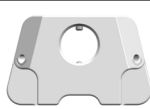

Figure 63
3. Orient rotation of the assembly neutral to the posterior condyles (Figure 63) insert a headed or non-headed 65mm pin into one or both of the oblique pin holes.